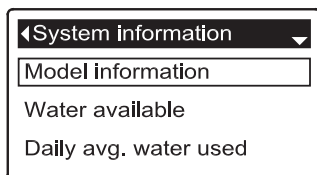

FIG. 55
3. Press the SELECT (O) button to display the System information menu (See Figure 55).
7. When finished viewing an information screen, press the SELECT (O) button. The display will go back to the System information menu (Figure 55). It will also exit automatically if no buttons are pressed for four minutes.